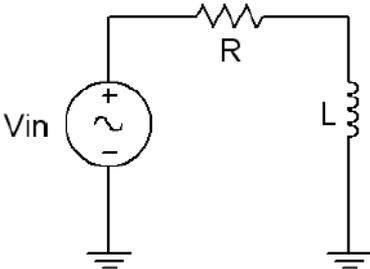

Figure3.1
1. Using figure 3.1 with $V_{in}=10V_{p-p}$ and $R=10k$, and assuming that the reactance of the inductor is much smaller than $10k$ and can be ignored, determine the circulating current using measured component values and record in Table 3.1. Also, measure the DC coil resistances of the inductors using an ohmmeter or DMM and record in Table 3.1.
2. Build the circuit of figure 3.1 using $R=10k$, and $L=10\text{ mH}$. Place one probe across the generator and another across the inductor. Set the generator to a 1000 Hz sine wave and 10 V_{p-p} . Make sure that the *Bandwidth Limit* of the oscilloscope is engaged for both channels. This will reduce the signal noise and make for more accurate readings.